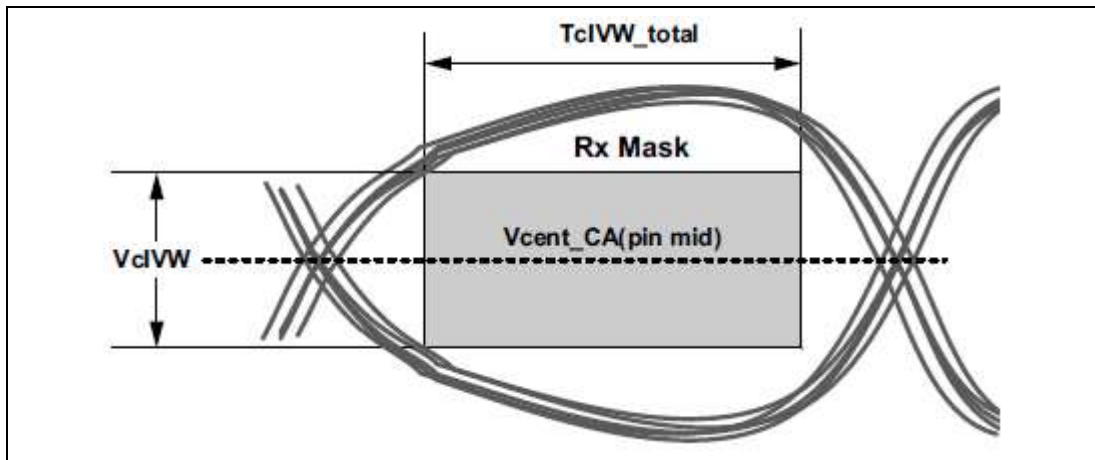

Figure 166 – CA Receiver (Rx) Mask
The command and address (CA) including CS input receiver compliance mask for voltage and timing is shown in Figure 166. All CA, CS signals apply the same compliance mask and operate in single data rate mode.